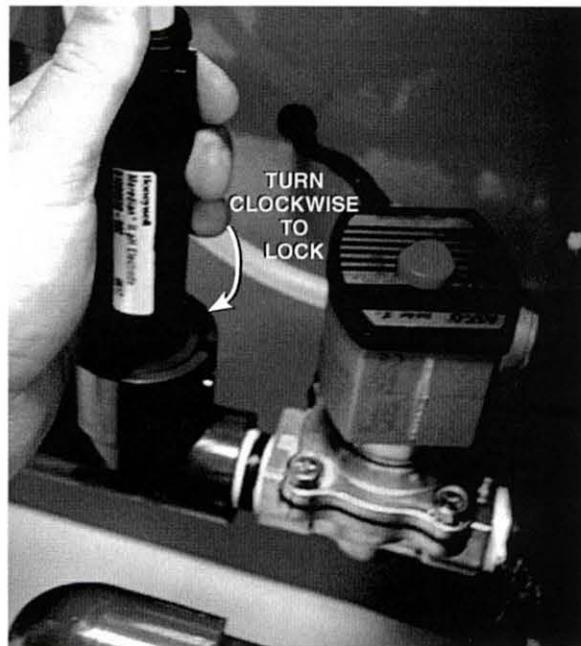

Figure 39. Twist Electrode Housing Clockwise to Lock
- ❑ 5. Twist the electrode housing clockwise, as shown in figure 39, to lock the electrode in place.